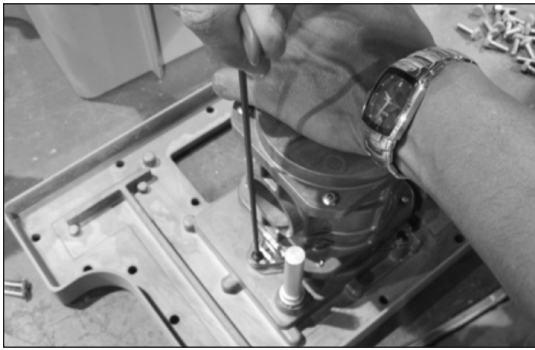

Figure 16.11 Example - Install new cartridge
- Using a 1/8" Allen wrench, reinstall and snug the three #10-24 x 1/2" button head screws holding the measurement cartridge to the front enclosure as shown in Figure 16.11 Example. Tighten the screws to 10-12 in lbs torque. Use a torque wrench when actually tightening the screws.